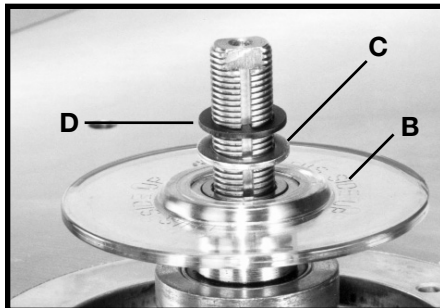

Fig. 21
4. **IMPORTANT:** Always place the "keyed" washer (D) Fig. 21, on the spindle before screwing on the spindle nut (E) Fig. 22. The "keyed" washer (D) Fig.21 prevents the spindle nut (E) Fig. 22 from loosening when the spindle turns counterclockwise.